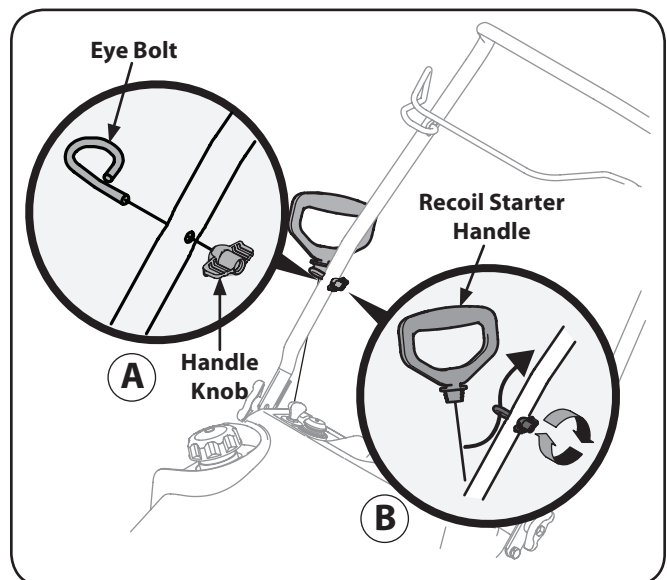

Figure 3-7
2. Place the eye bolt and handle knob on the upper handle as shown in Figure 3-7. Do not fully tighten the hardware until instructed to do so.
4. Slip the recoil starter rope into the eye bolt from the back of the snow thrower. See Figure 3-7.